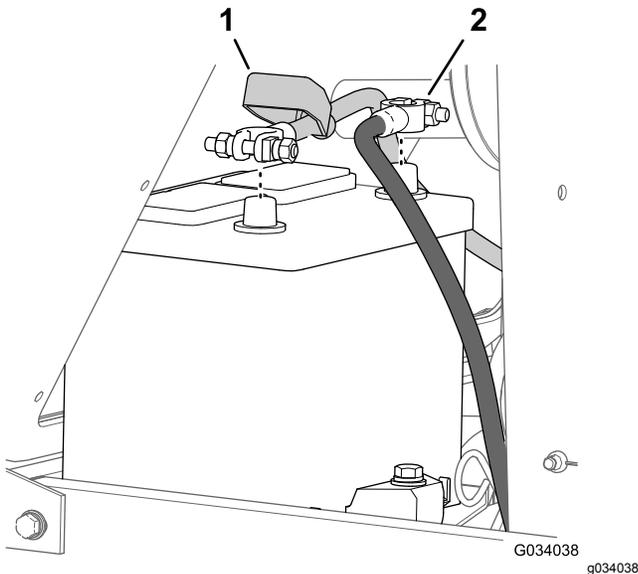

Figure 54
2. Disconnect the negative (-) cable from the battery post (Figure 54).
3. Slide the insulator cover away from the battery-cable clamp (Figure 54).
4. Disconnect the positive (+) cable from the battery post (Figure 54).
7. Connect the cables, positive (+) cable to the positive battery post (Figure 54).
8. Connect the negative (-) cable to the negative battery post (Figure 54).